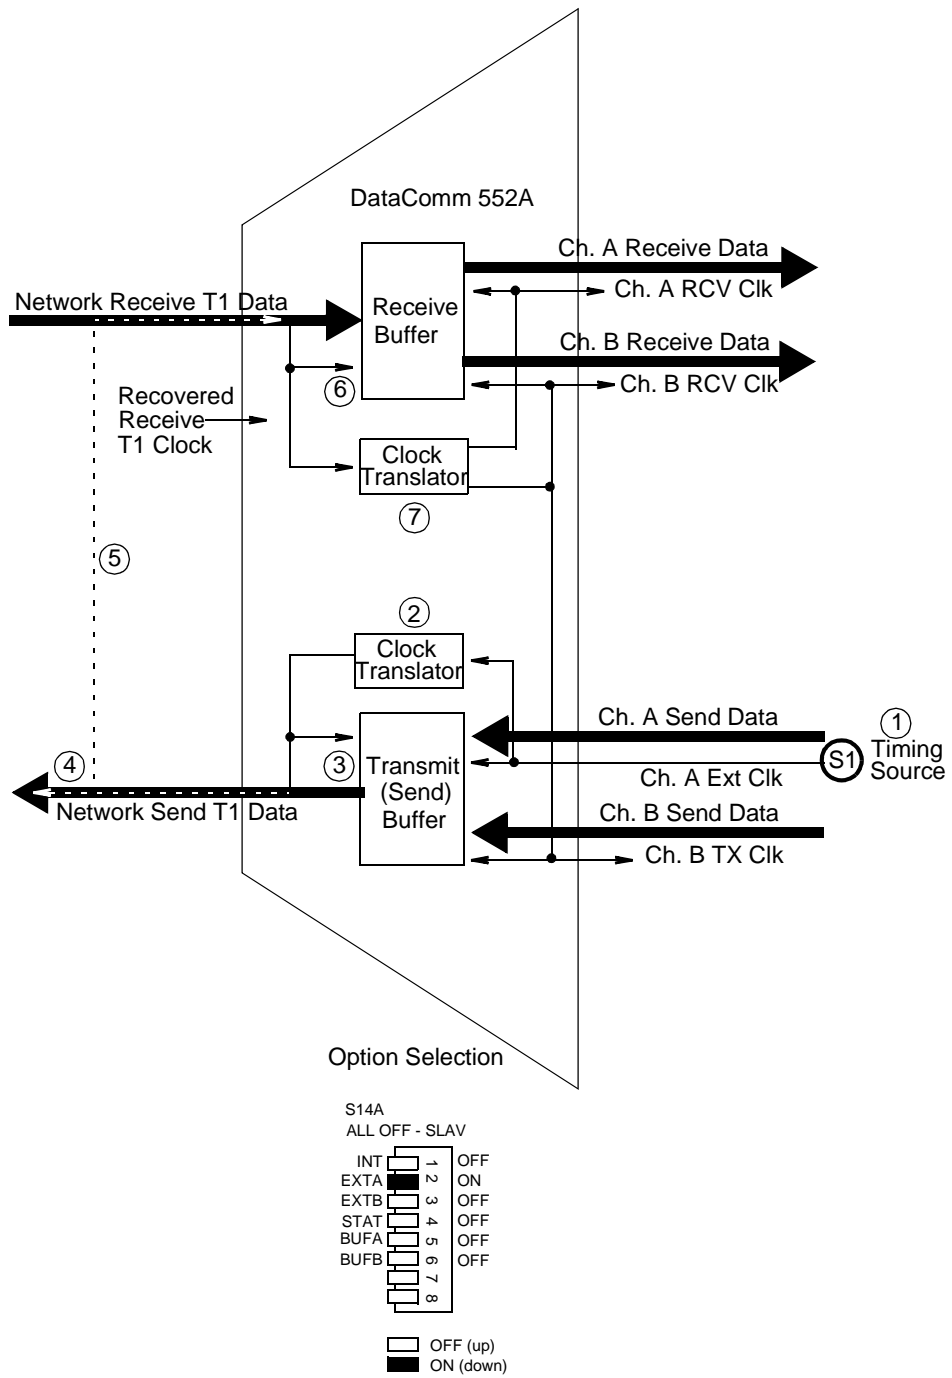

Figure B-3 Channel A Timing
Channel A Timing - With Channel A Timing, illustrated in Figure B-3, the customer equipment on Channel A provides its own channel transmit clock signal (1) on the appropriate interface lead. The DSU translates (2) this clock to provide the send timing source for T1 data out-put from the transmit buffer (3) to the network. The remote DSU uses this as its timing reference (4) and loops it back to the DSU (5). The DSU recovers the receive T1 clock from the network receive T1 data and uses it to clock T1 data into the receive buffer (6). The DSU also translates (7) the receive T1 clock to provide the channel transmit clock signal for Channel B and the receive clock signals for both channels, on the appropriate interface leads for each channel.